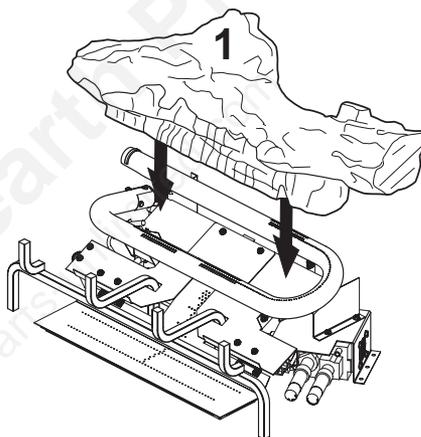

Figure 28 - Installing Log #1
It is very important to install these logs exactly as instructed. Do not modify logs. Only use logs supplied with heater or as identified for use with the heater as shown in Figure 28.
1. Place rear log (#1) on base assembly as shown in Figure 28. Log will fit over right end of burner and rest in middle of U-burner.